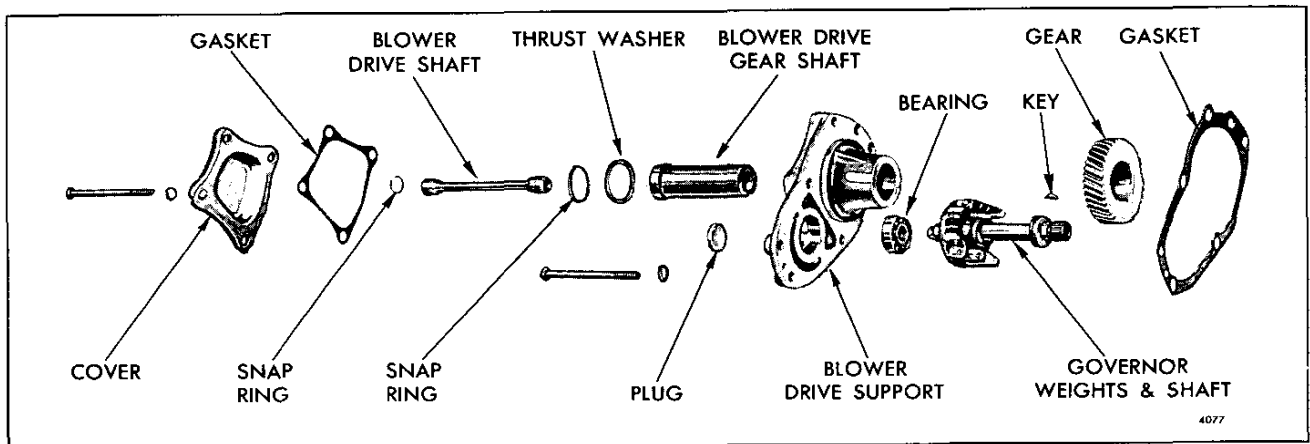

Fig. 12 - Blower Drive Support Details and Relative Location of Parts
1. Remove the snap ring and the thrust washer from the blower drive gear shaft (Fig. 12). Slide the shaft and gear from the blower drive support.